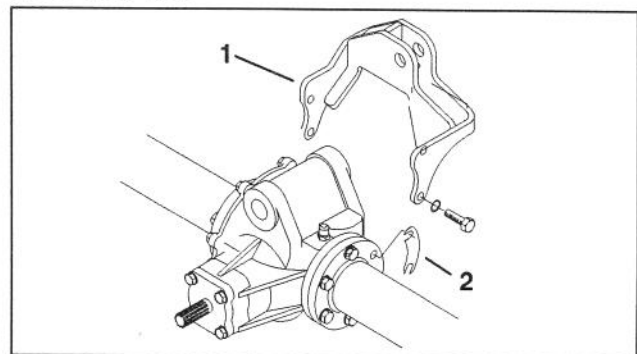

Figure 5
4. Mount cylinder support to axle with (2) shims (if required), (4) lockwashers (previously removed) and (4) new m10 x 35 mm capscrews (Fig. 5). Torque capscrews to 25-35 ft-lbs.